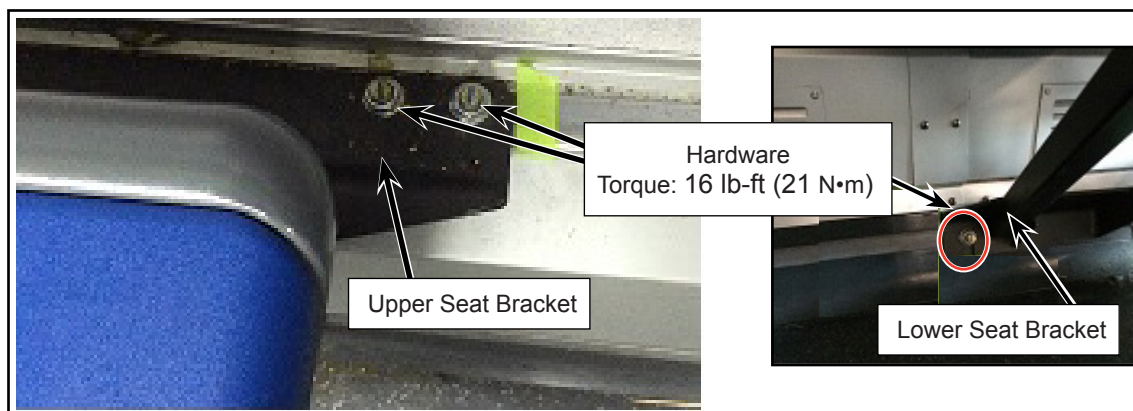

Figure 19 - Typical View of Nuts Installed to Bracket
- 2.10.3. Attach nuts to upper and lower seat bracket with a 9/16" (14mm) socket (see Figure 19).
- 2.10.4. Torque hardware as specified (see Figure 19).